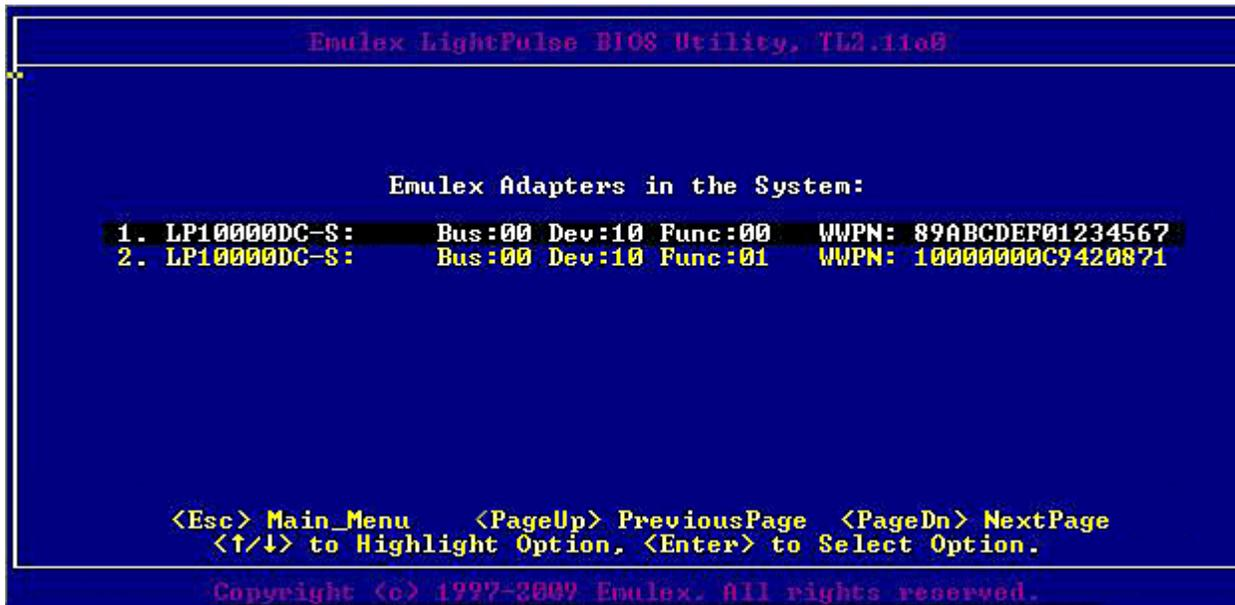

Figure 1: Adapter Listing screen
1. Turn on the computer and press and hold down **<Alt>** or **<Ctrl>** and press **<E>** immediately (within five seconds) when the bootup message to start the BIOS utility is displayed. An adapter listing is displayed (Figure 1).